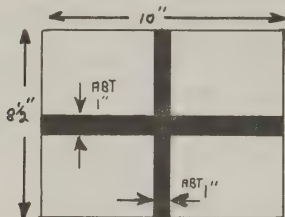

Fig. 1 INITIAL SETUP CHART
1. Prepare a simple test card as shown below in fig. 1. Don't use any complicated patterns to start with...this test card was purposely designed to be as plain as possible. Even then, you'll be very lucky if you can recognize it when you first turn your camera on. There's plenty of time for the more complicated test patterns once an image has been obtained.